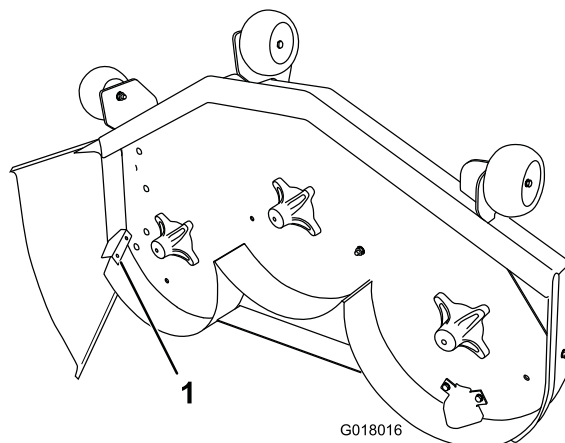

Figure 1
6. Locate the cutoff baffle at the side discharge opening on the mower deck (Figure 1).